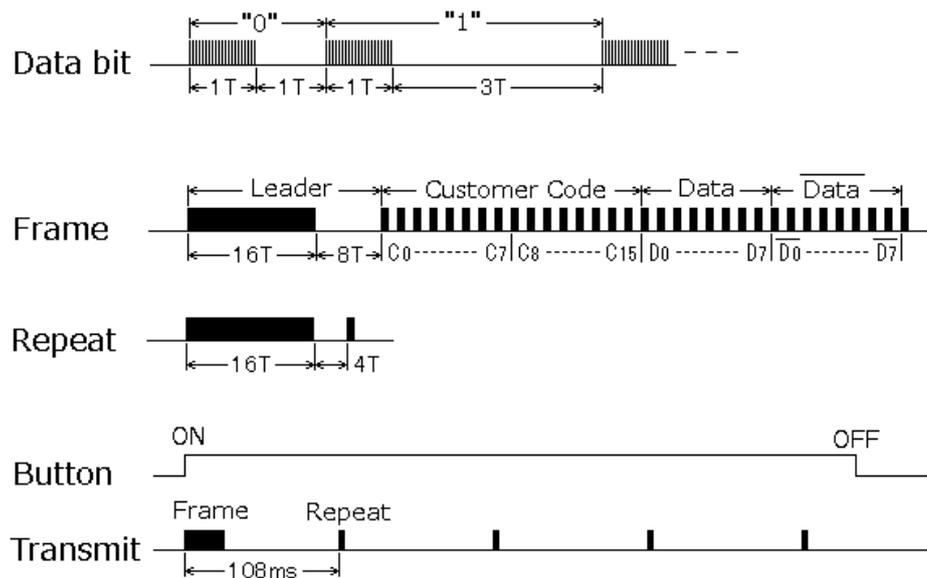

Figure 4.19.2 Signal waveform of NEC format
- 2 The NEC format outline is as follows and Figure 4.19.2 also shows the NEC format.